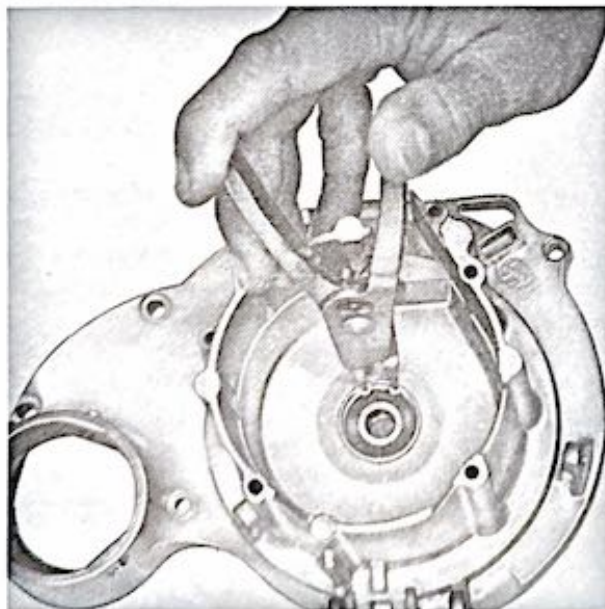

Figure 14. Removing bearing retaining ring from motor housing
(1) Rear bearing can now be examined and removed if necessary, using rear bearing puller (T125). When installing a new rear bearing be careful to apply force to the inner race only, using a drift pin no longer than the diameter of the side face of the inner race. Do not pound on the outer race of the bearing to install it.
(2) If front bearing must be removed, use retaining ring pliers (Truarc No. 0300) to remove the retaining snap ring. (See Fig. 14.) This bearing is not a press fit in the casting and should fall out with a small amount of tapping of the inverted motor housing on a padded bench surface.